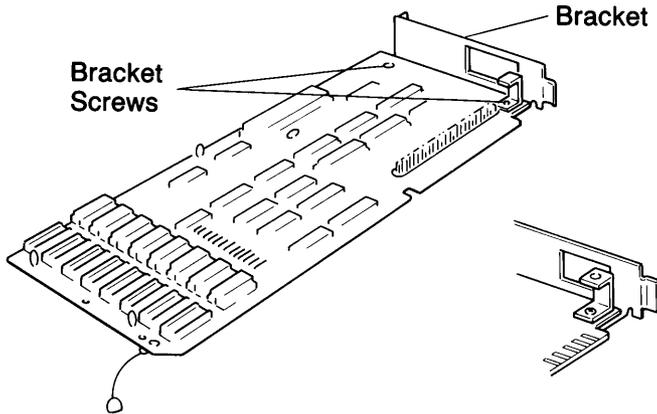

Figure 2. Memory PLUS Expansion Board
4. Attach the bracket (A) to the expansion board and secure its left edge with the screw supplied with the bracket. Mount the supplied holder on the expansion board with longer side down, and secure it to the expansion board and right edge of the bracket as shown in Figure 2. Do not overtighten the screws.